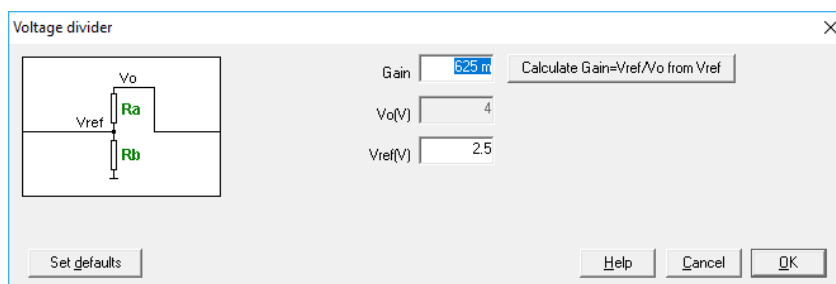

Figure 4: Voltage divider sensor parameters
3. Sensor parameters are defined in the corresponding dialog box (Figure 4). When a digital control loop is designed, only "Voltage Divider" sensor can be selected.